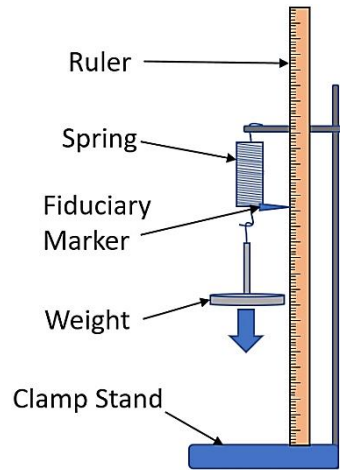

Figure 2
1. Set up the equipment as shown in the diagram (Figure 2).